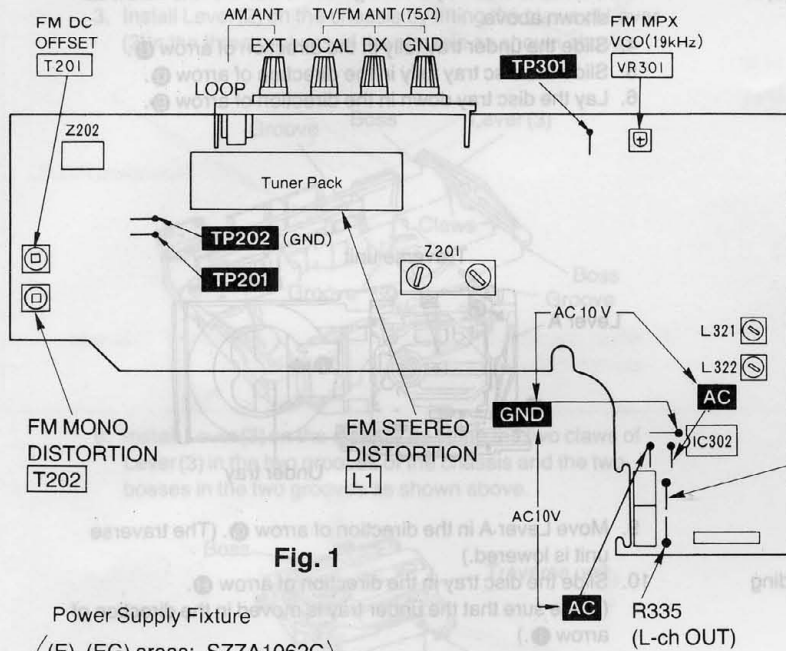

Fig. 1
1. Test equipment connection is shown in figure 1, 5.